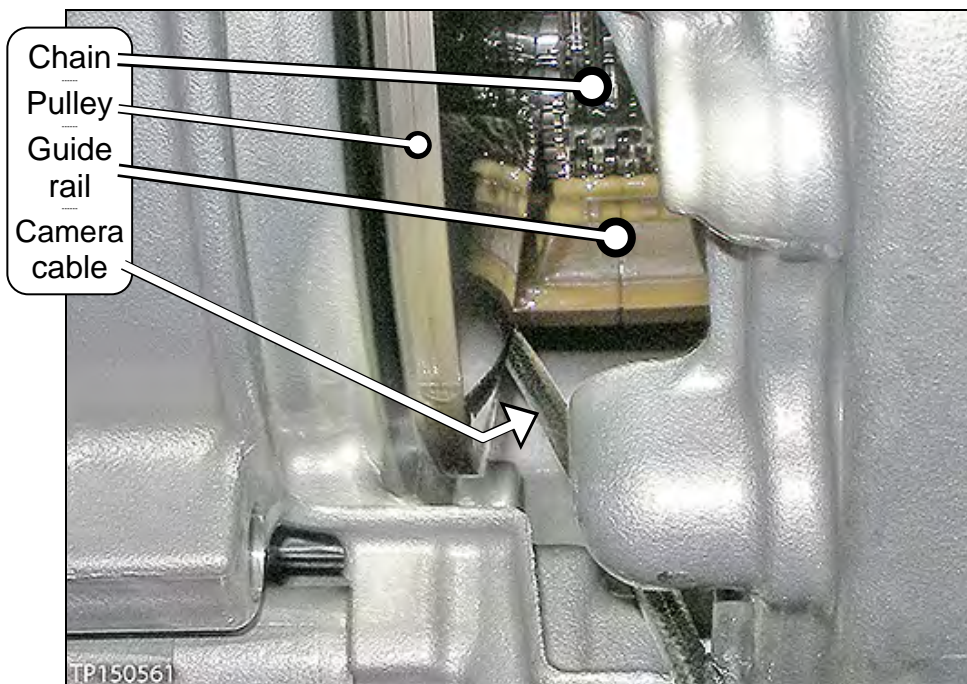

Figure 7
- Figure 7 shows where to insert the camera lens on the passenger side of the chain.